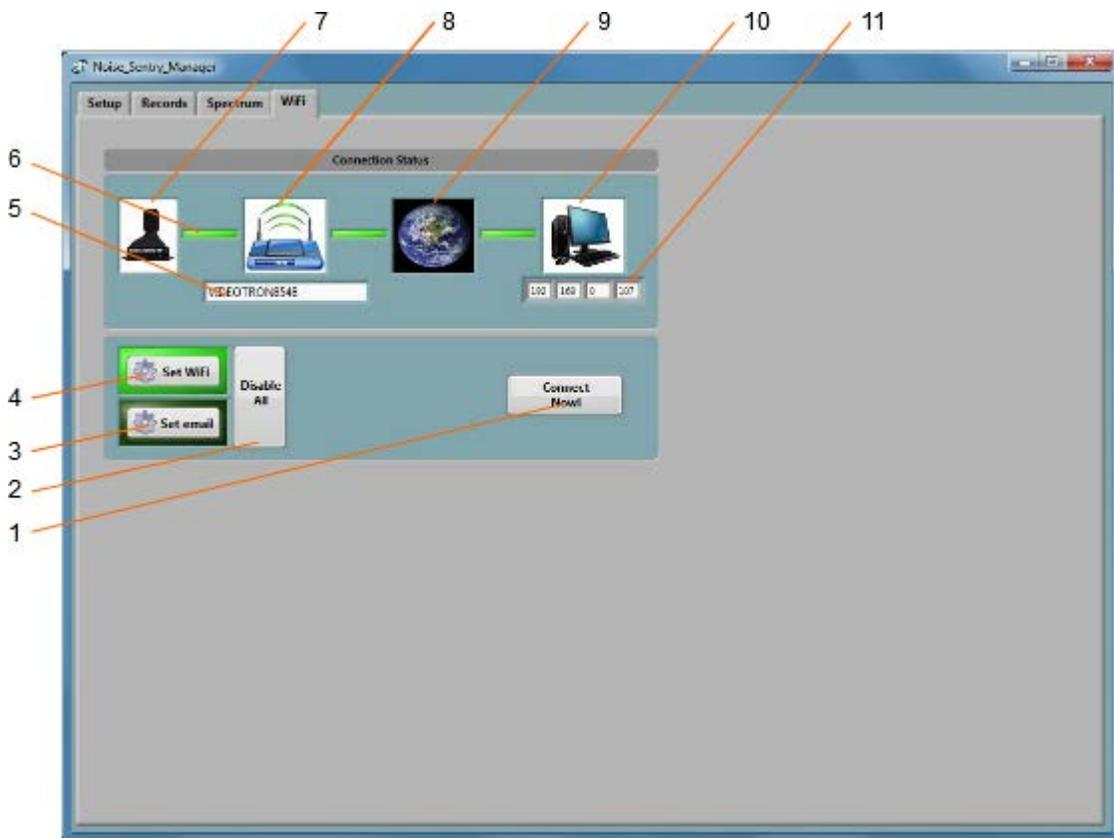

Figure 5 WiFi Tab
- **The WiFi Tab:** Is used to display the present connection state of the `NSRTW_mk2`, and to setup its connection parameters (SSID, Security, Password...etc.) (see Figure 5).